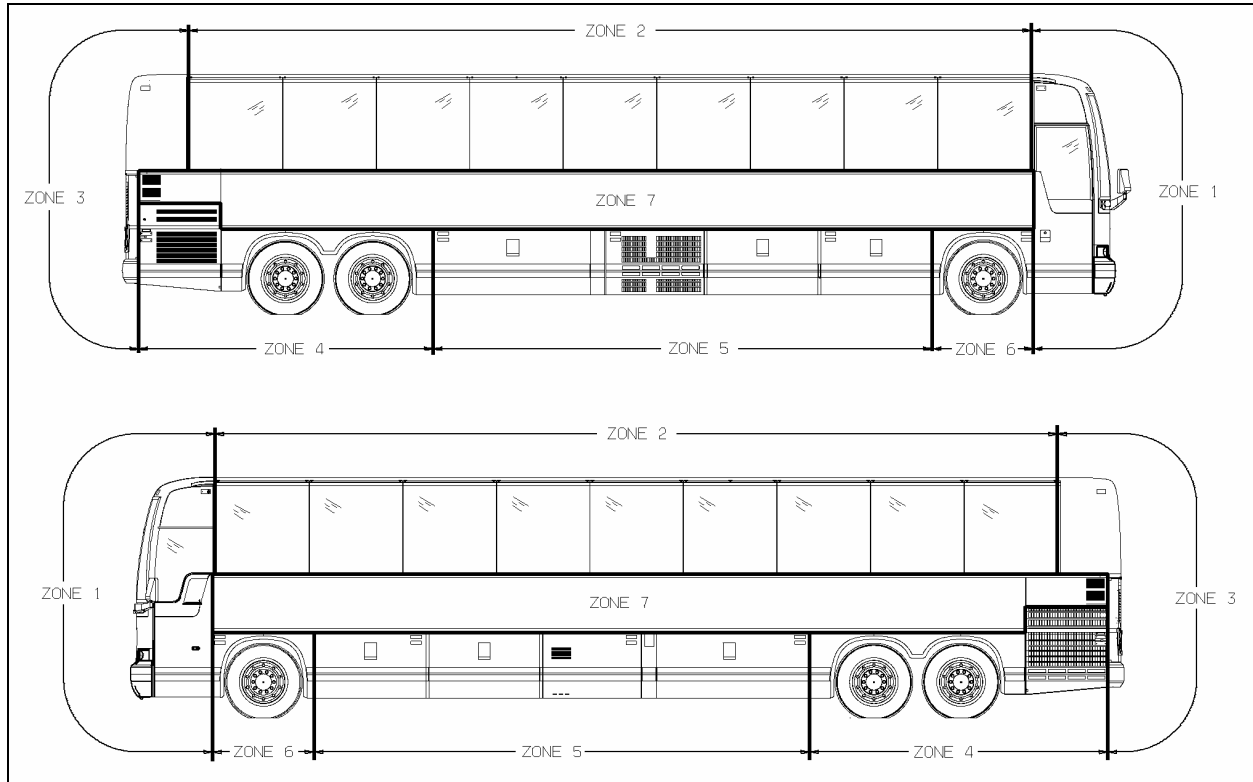

FIGURE 7: X3 COACHES ZONING
- Insert rope into rubber extrusion leaving enough length at each corner to make a loop. Spray soapy water onto rope and rubber extrusion (Fig. 7).